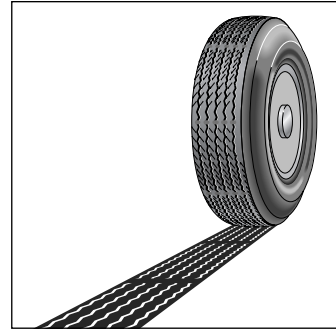

Figure 17-10: It's time for new tires when treadwear indicators appear.
- ✓ **Look at the treads.** Most tires have built-in **treadwear indicators** (see Figure 17-10). These bars of hard rubber are normally invisible but appear across treads that have been worn down to $\frac{3}{32}$ of an inch of the surface of the tire (the legal limit in most states). If these indicators appear in two or three different places less than 120 degrees apart on the circumference of the tire, replace the tire.